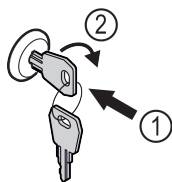

Fig. 138
- ▶ Insert the key. *Fig. 138 (1)*
- ▶ Turn the key clockwise by 90°. *Fig. 138 (2)*